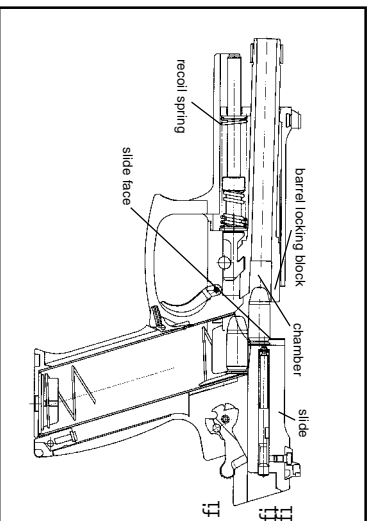

Figure 8 Feeding
F. **Feeding** - (See Figure 8) -The compressed recoil spring drives the slide forward. If the magazine is empty, the magazine follower will lift the slide release to a point where it will stop the forward progress of the slide. If the magazine is not empty, the face of the slide will make contact with the top round in the magazine. The round will be driven from the magazine towards the chamber. The tip of the projectile is guided into the chamber by the magazine lips until the round clears the magazine completely. At that moment the claw of the extractor snaps onto the rim of the cartridge case as it becomes parallel with the bore.